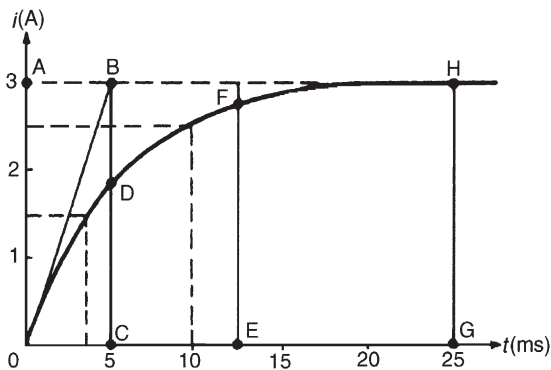

Figure 18.12
- With reference to Fig. 18.12, the initial slope is obtained by making  $AB$  equal to 1 time constant, (i.e. 5 ms), and joining  $OB$ .